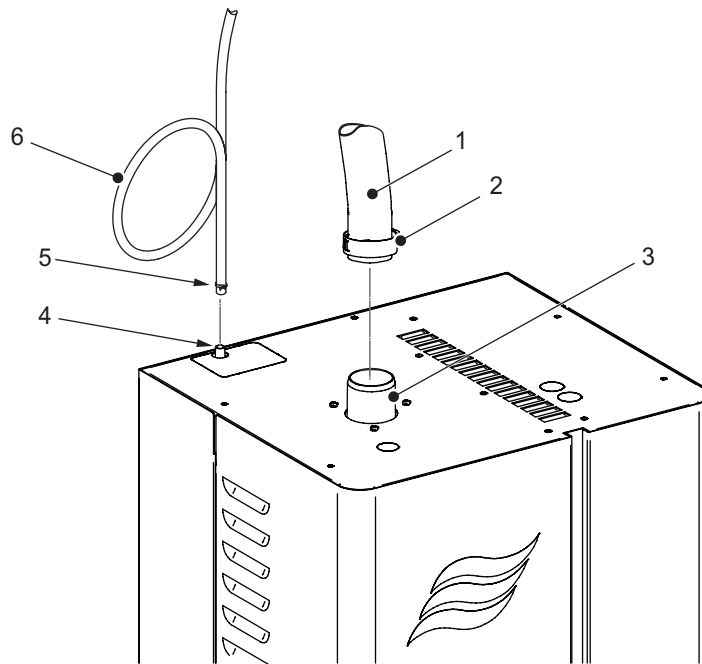

Figure 13: Hose Connections on Humidifier
- a. Connect the condensate hose from the blower pack to any of the following drain connections. Refer to Figure 13.
- a. Connect the steam hose to the steam adapter on the humidifier, and secure it with a hose clamp (supplied). Do not over-tighten the hose clamp – maximum torque is 180 N·cm. Refer to Figure 13.